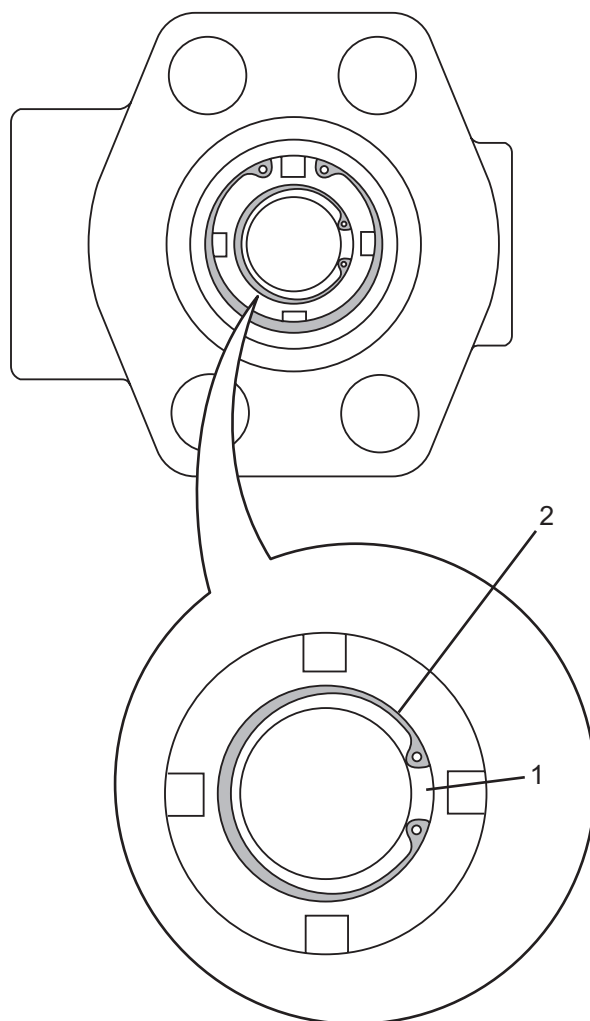

Figure 37
4. It may be necessary to install a different orifice (Figure 37, Item 1) in the flow control to obtain the 1400-1600 rpm shift range.
- To change the orifice size, remove snap ring (Figure 37, Item 2).